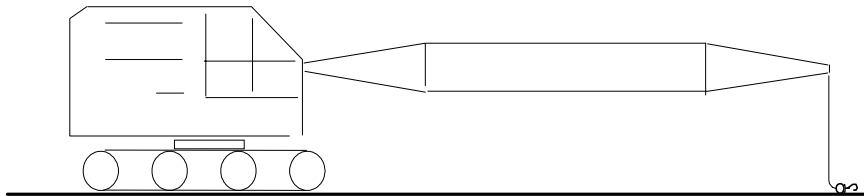

Figure 5
3. Put the main hook on the ground and let the lines go slack (Fig.5).